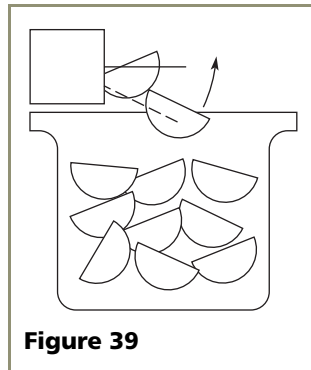

Figure 39
3. The ice maker will continue to produce until the bin is full. You may interrupt production by raising the bin arm into an upright and locked position (see **Figure 39**). While the bin arm is locked, the unit will maintain temperature for ice storage.